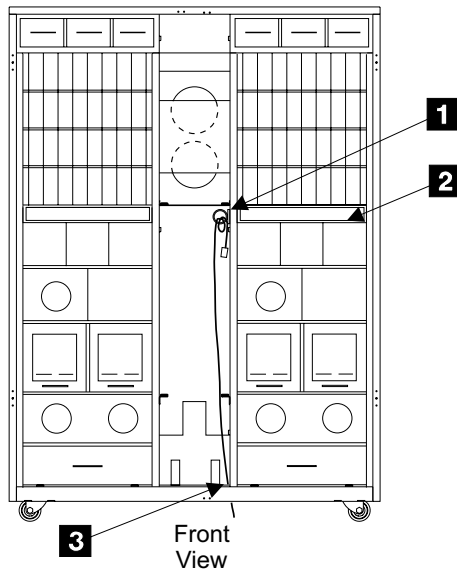

Figure 108. Service Terminal Utility Power Cord Routing (S007634m)
- 5. Connect the service terminal AC adapter to the utility power cord, **1** in Figure 108.